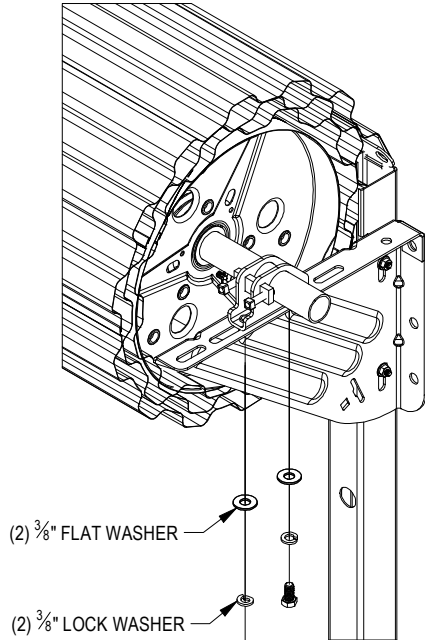

FIGURE 17:
- Attach stamped axle support to door bracket using two (2) each $\frac{3}{8}$ " - 16 x $\frac{3}{4}$ " grade 5 hex bolts, $\frac{3}{8}$ " lock washers and $\frac{3}{8}$ " flat washers. **See Figure 17.**